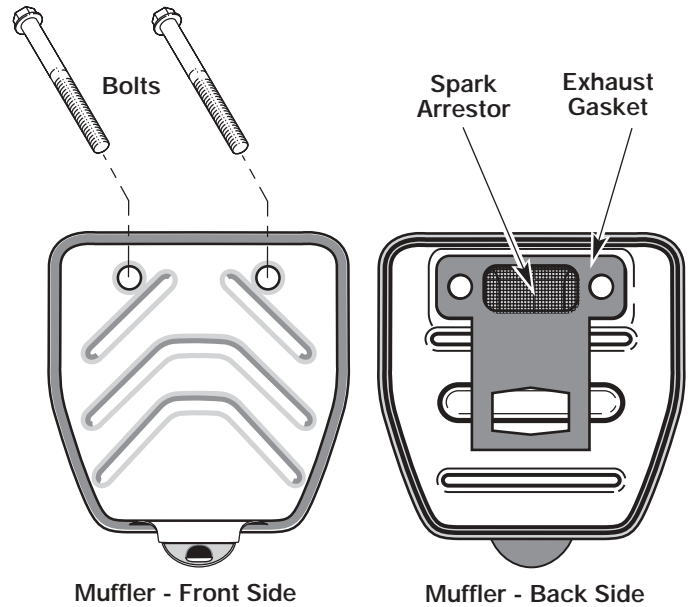

Fig. 41
2. Locate muffler front and the two (2) bolts securing it to the engine (Fig. 41). Remove the two (2) bolts using a flatblade screwdriver or 5/16-inch socket or nut driver. Pull muffler off of the engine.
3. Turn muffler over to the back side and locate the exhaust gasket. Remove the muffler gasket from the muffler (Fig. 41).
7. Place the exhaust gasket against muffler's back side. Align the gasket bolt holes with the bolt holes in the muffler. While holding exhaust gasket in place, insert the bolts into the muffler's front side (Fig. 41).